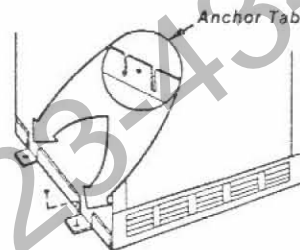

Figure 10
**Step 4:** Fireplace should be anchored to floor (in manufactured housing, fireplace MUST BE anchored to the floor). Bend down four (4) anchor tabs located at base of fireplace and secure to floor with screws or nails (see Figure 10).
**Note:** In Manufactured Housing, fireplace MUST BE anchored to the floor. (Figure 10) illustrates the seismic anchor tabs built into the fireplace. (Figure 10) illustrates the proper installation technique. Nail to floor as shown.